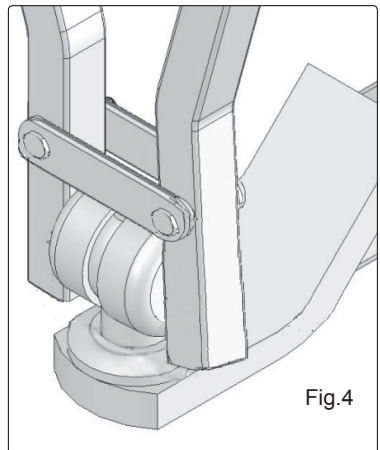

Fig.4
- 3.5 Check that the carrier is securely clamped onto the tow ball (Fig.4).